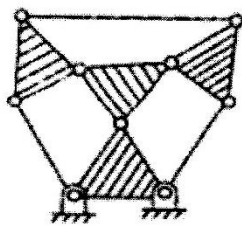
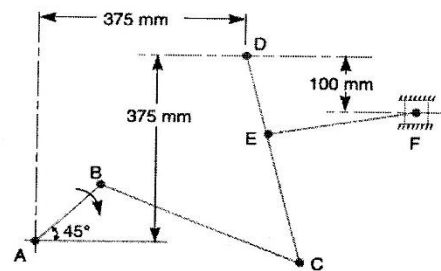

Fig.1, Q 1(b)
Fig.2, Q 2(c)
- (c) For the kinematic linkage shown in Fig.1 , Calculate **07**
- (1)number of binary,ternary links etc.
- (2)number of total links
- (3)number of loops,joints or pairs,degree of freedom
- (c) The mechanism, as shown in Fig. 2 has the dimensions of various links as follows :AB = DE = 150 mm ; BC = CD = 450 mm ; EF = 375 mm. The crank AB makes an angle of  $45^\circ$  with the horizontal and rotates about fixed point A in the clockwise direction at a uniform speed of 120 r.p.m. The lever DC oscillates about the fixed point D, which is connected to AB by the coupler BC. The block F moves in the horizontal guides, being driven by the link EF. Determine: 1. velocity of the block F, 2. angular velocity of DC. **07**